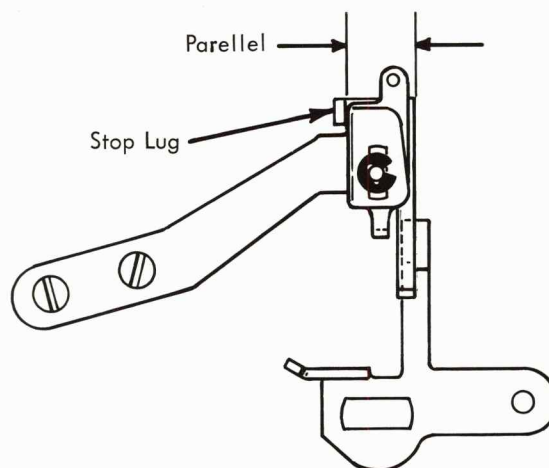

FIGURE 150.4 Margin Rack Latch Bellcrank
7. **Margin Rack Latch Bellcrank** - Adjust the position of the margin rack latch bellcrank to the margin latch bellcrank bracket assembly by forming the stop lug on the bracket until the front portion of the bellcrank is parallel to the rear edge of the bracket (Fig. 150.4).